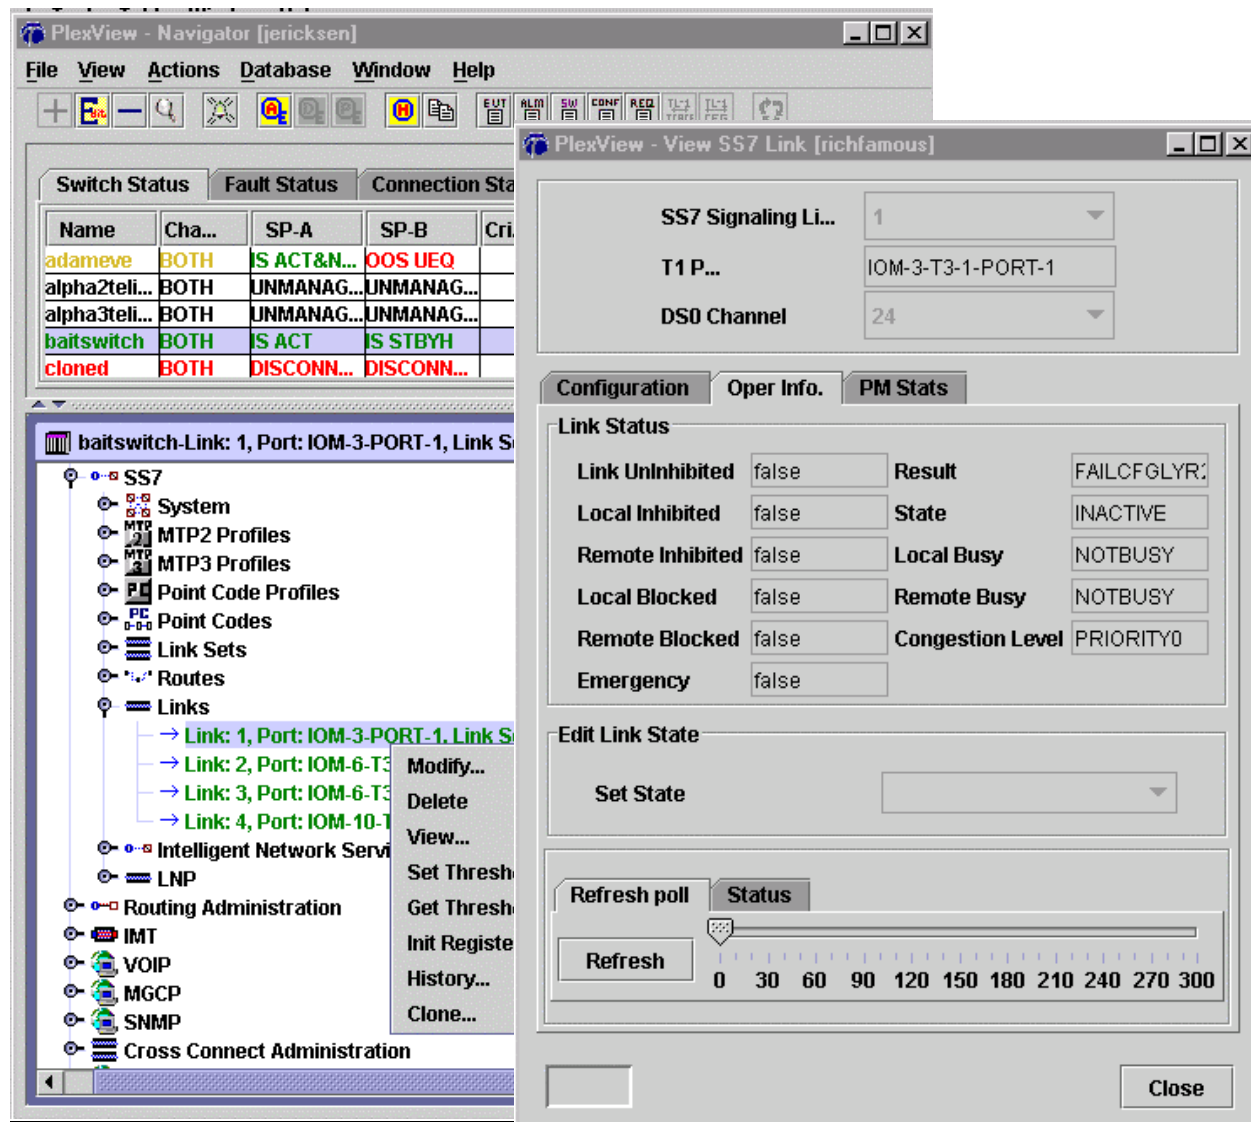

Figure 1. Signaling Link Status
5. Retrieve status of a signaling link. Double-click the switch, SS7 and *Links*. Right-click the *link*, click *View* and then select *Oper. Info* tab. See Figure 1.